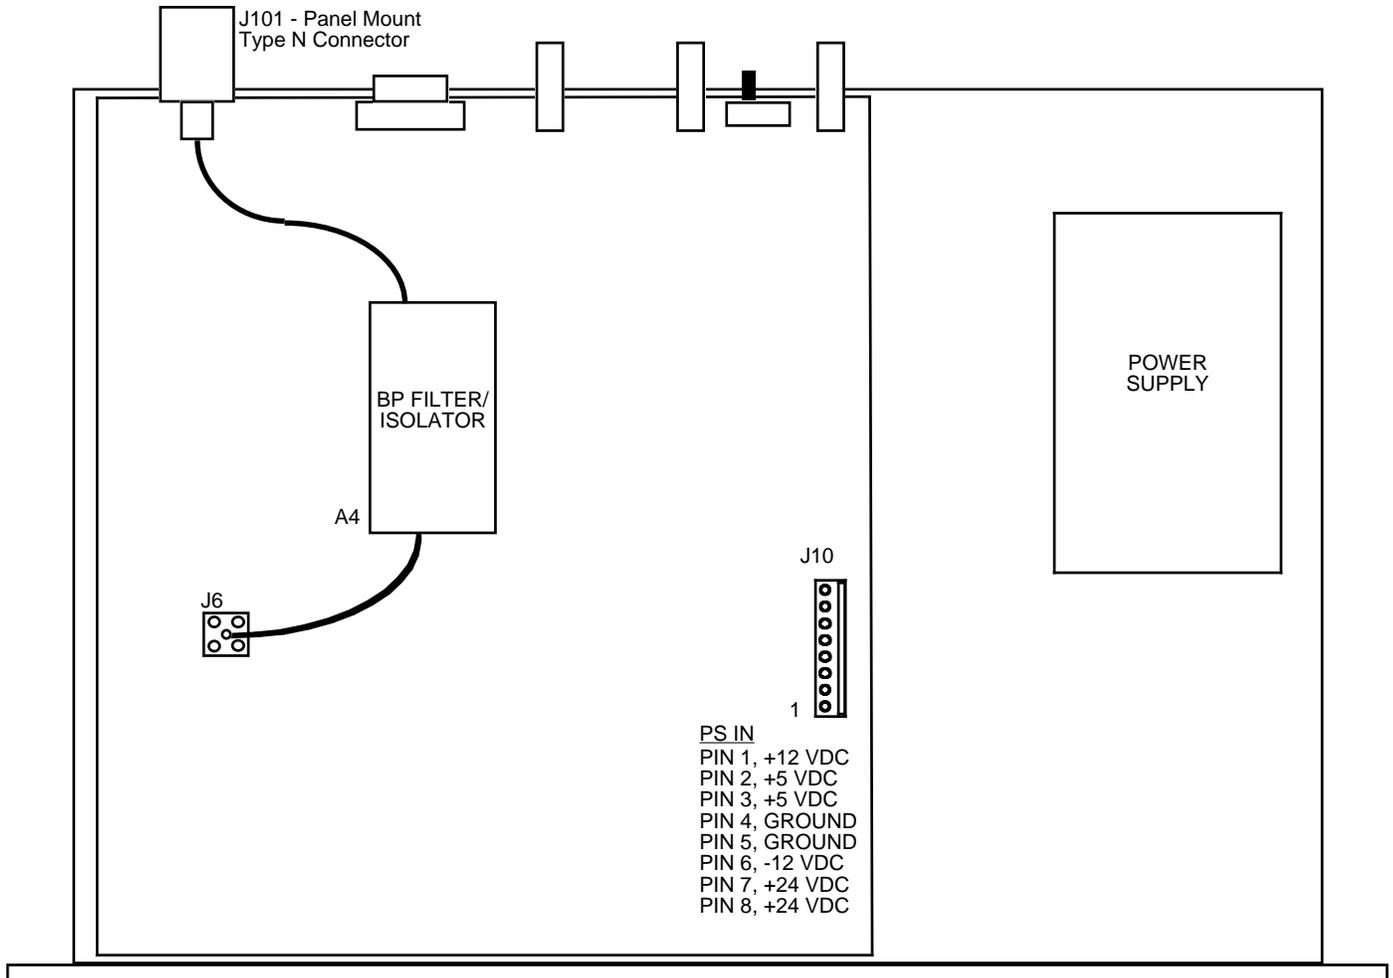

FIGURE 2.0 2116-80 Mechanical Assembly
2.1 Mechanical - The 2116-80 consists of one RF PCB housed in a 1 RU (1 3/4 inch high) by 12 inch deep chassis. A switching, ± 12 , +24, +5 VDC power supply provides power for the assemblies. The 2116-80 can be secured to a rack using the 4 holes on the front panel. Figure 2.0 shows how the 2116-80 is assembled.